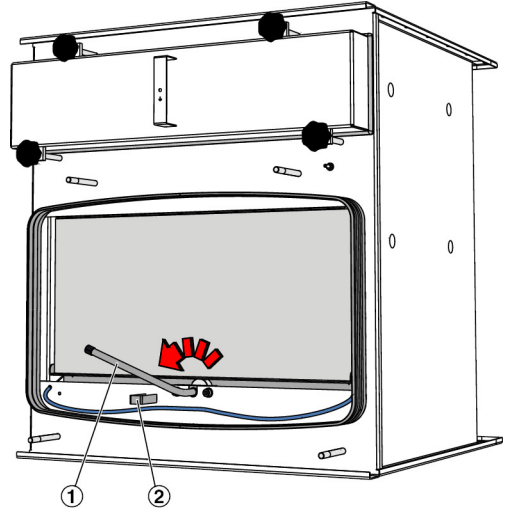

Fig. 6: Pressing the filter on
5. ▶ Press the filter seal against the sealing integrity test groove using the clamping frame. Then turn the operating lever (Fig. 6/1) anti-clockwise to the travel stop (Fig. 6/2).